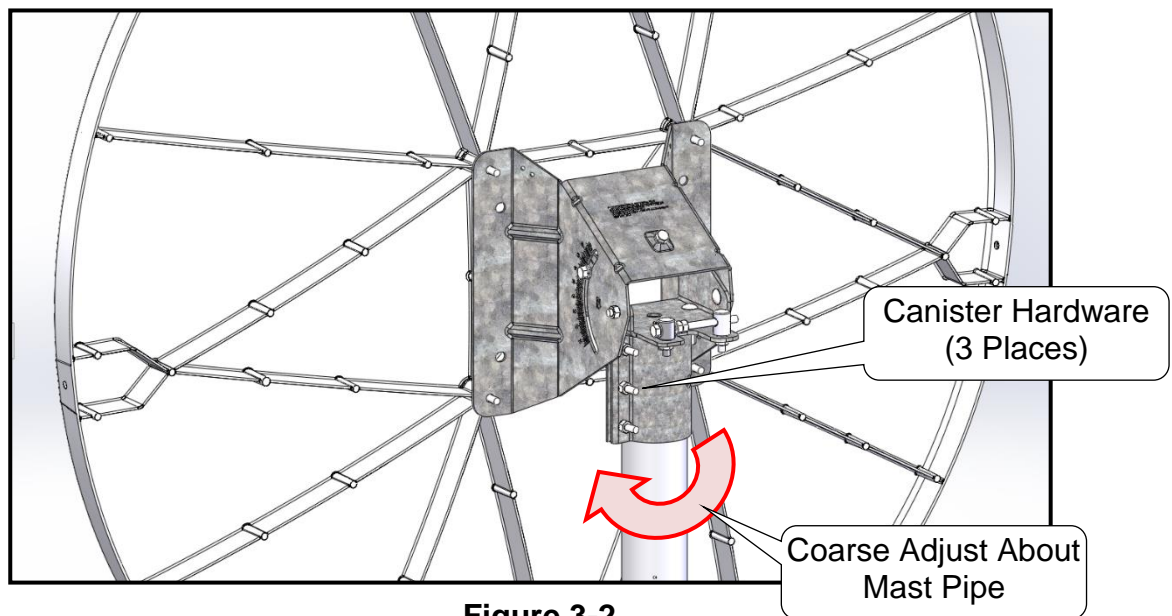

Figure 3-2
STEP 2: Coarse Azimuth Adjustment: With the electronics set to acquire the satellite, rotate the entire Antenna in azimuth (about the mast pipe) until the target satellite is identified. Once the target satellite is located, securely tighten the Canister hardware (3 places). See Figure 3-2.